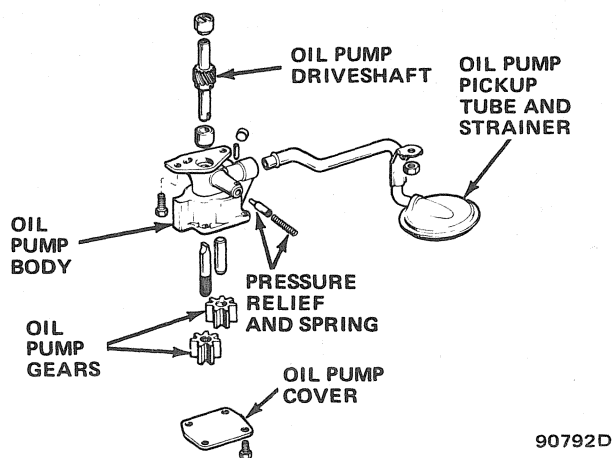

Fig. 1B-29 Oil Pump—Exploded View
(1) Remove cover attaching screws, cover, idler gear and drive gear and shaft (fig. 1B-29).
(2) Remove pressure regulator valve and valve parts.